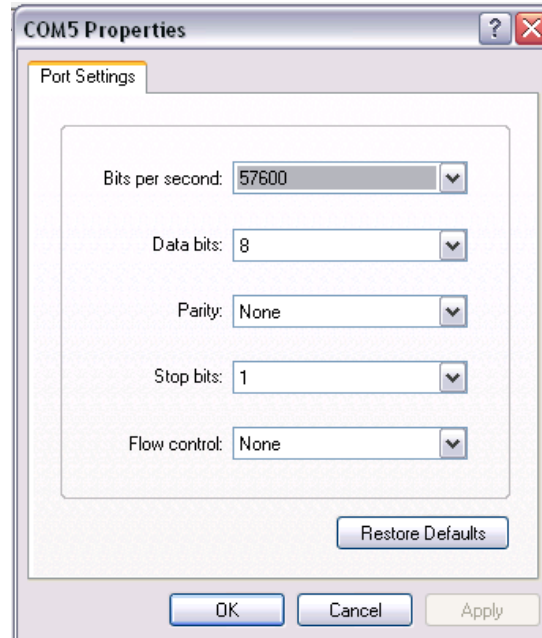

Figure 7—HyperTerminal connection Properties window
3. Under “Connect Using,” select the appropriate COM port. This will likely be the same port that MCEDesigner uses to communicate with the control board. Press “OK” and the Properties window will open. Set the “Bits per Second” field to 57600, “Flow control” to None and verify the rest of the settings as shown below in Figure 7.